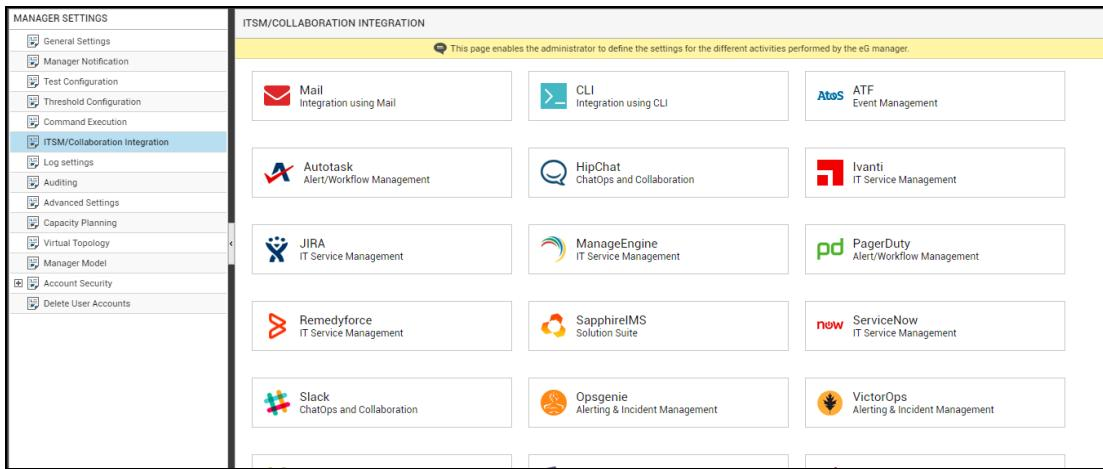
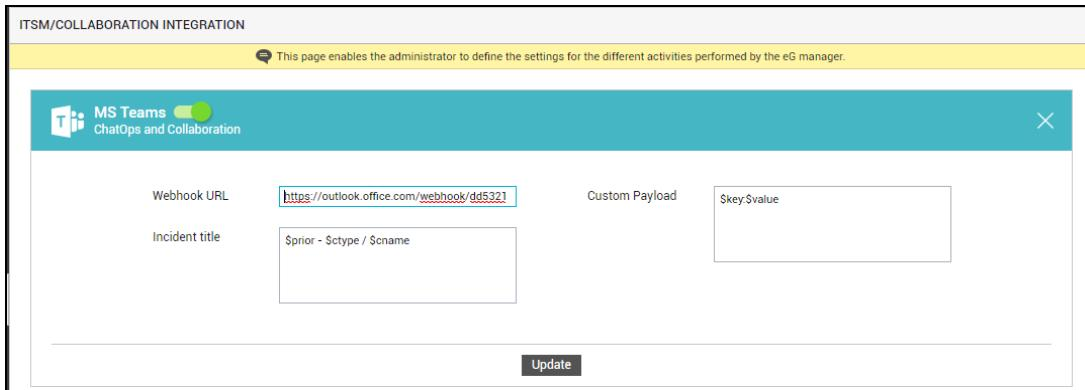

Figure 5.25: Viewing the ITSM/Collaboration tool options
Figure 5.26: Configuring integration with MS Teams
3. Figure 5.25 will then appear. From the **MANAGER SETTINGS** tree in the left panel of Figure 5.25, select the **ITSM/Collaboration Integration** node. The third-party ITSM/Collaboration
4. Now, click on the **MS Teams** option in the right panel (see Figure 5.25). An **MS Teams** section will now appear in the right panel (see Figure 5.26).
5. To enable integration with MS Teams, first slide the **MS Teams** slider in Figure 5.26 to the right.
6. Then, specify the following in Figure 5.26:
7. Finally, click the **Update** button in Figure 5.26 to save the changes.